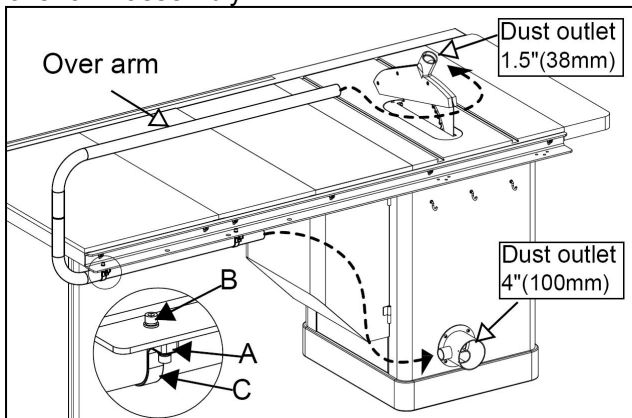

Fig.14
2. Installation of the over arm(Fig.14):
- Fit the bracket (A) to the rear rail with screw (B).
- Fit the over arm to the bracket (A) with clip (C).
- Connect the pipe (1.5") provided by us to the dust outlet as Fig.14 shows.